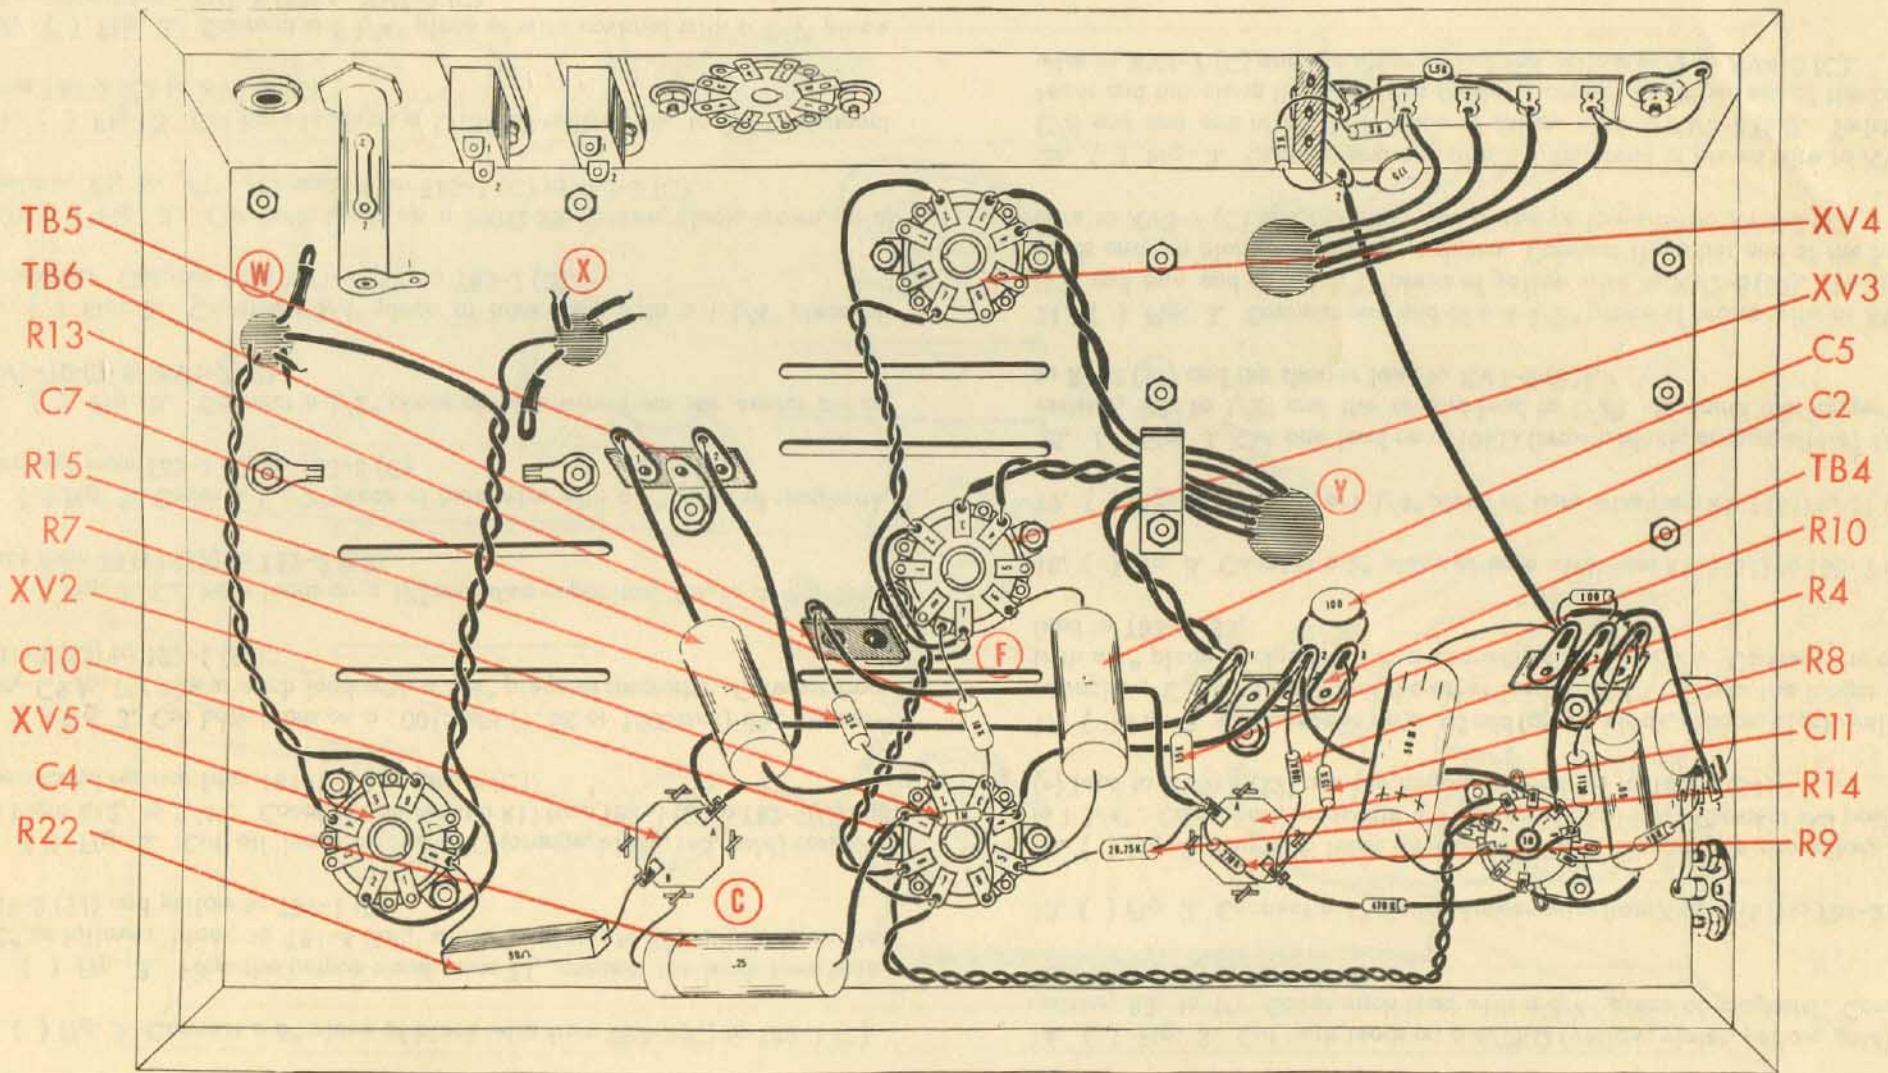

Fig. 4
1. () Fig. 4. From hole "Y" of output transformer T1, twist the red and red-yellow leads together. Connect both leads to TB4-1 (C).
2. () Fig. 4. From hole "Y" of the output transformer T1, twist the brown and brown-yellow leads together. Connect the brown lead to XV3-3 (C) and the brown-yellow lead to XV3-4 (S1).
3. () Fig. 4. From hole "Y" of the output transformer T1, twist the blue and blue-yellow leads together. Connect the blue lead to XV4-3 (S1) and the blue-yellow lead to XV4-4 (S1).
4. () Fig. 4. Connect a 4 1/2" piece of green wire from TB4-2 (C) to XV2-4 (C).
5. () Fig. 4. Cut both leads on a 100mfd disc capacitor, C2, to 1/2". Connect from TB4-2 (C) to TB4-3 (C).
6. () Fig. 4. Cut both leads on a 100K Ω (brown, black, yellow, gold) resistor, R4, to 3/4". Connect from C11-B (C) to TB4-2 (S4).
7. () Fig. 4. Cut both leads on a 15K Ω (brown, green, orange, silver) 1/2W resistor, R8, to 3/4". Connect from C11-B (C) to TB4-3 (S2).
8. () Fig. 4. Cut both leads on a 270K Ω (red, violet, yellow, silver) resistor, R9, to 1/2". Connect from C11-A (C) to C11-B (S4).
9. () Fig. 4. Connect a 5" piece of red wire from C10-A (C) to TB5-2 (C).
10. () Fig. 4. Connect a 6" piece of red wire from C10-A (C) to TB4-1 (C).
11. () Fig. 4. Connect a 5" piece of red wire from C11-A (C) to TB6 (C).
12. () Fig. 4. Cut both leads on a 15K Ω (brown, green, orange, silver) 1 watt resistor, R10, to 1/2". Connect from TB4-1 (S4) to C11-A (C).
13. () Fig. 4. Cut both leads on a 28.75K Ω (red, grey, grey, gold) resistor, R14, to 3/4". Connect from XV2-5 (C) to C11-A (S4).
14. () Fig. 4. Connect a 1 1/4" piece of bare wire covered with a 1" piece of spaghetti from XV2-6 (S1) to XV2-3 (C).
15. () Fig. 4. Cut both leads on a 1M Ω (brown, black, green, silver) resistor, R7, to 1/2". Connect from XV2-1 (C) to XV2-4 (S2).
16. () Fig. 4. Cut both leads on an 18K Ω (brown, grey, orange, gold) resistor, R13, to 3/4". Connect from XV2-3 (S2) to ground lug "F" (C) on XV3.
17. () Fig. 4. Cut both leads on a 33K Ω (orange, orange, orange, gold) resistor, R15, to 3/4". Connect from TB6 (S2) to XV2-2 (C).
18. () Fig. 4. Cut both leads on a .25mfd (red, green, yellow, white, yellow) capacitor, C4, to 1". Cover one lead with a 3/4" piece of spaghetti and connect to XV2-1 (S2). Connect the other lead to ground lug "C" (S1) at C10.
19. () Fig. 4. Cut both leads on a .1 mfd (brown, black, yellow, white, blue) capacitor, C5, to 1". Connect from XV2-5 (S2) to XV3-6 (C).
20. () Fig. 4. Cut both leads on a .1 mfd (brown, black, yellow, white, blue) capacitor, C7, to 1 1/2". Cover each lead with a 1 1/4" piece of spaghetti. Connect from XV2-2 (S2) to TB5-1 (C).
21. () Fig. 4. Twist the two red leads from hole "W" of power transformer T2, and run along the chassis as shown. Connect one red lead to XV5-4 (S1) and the other red lead to XV5-6 (S1).
22. () Fig. 4. Twist the two yellow leads, one from hole "W" and the other from hole "X", of the power transformer T2, and run along the chassis as shown. Connect one yellow lead to XV5-2 (S1) and the other yellow lead to XV5-8 (C).
23. () Fig. 4. Cut both leads on a 50 Ω , 10 watt, wire wound resistor, R22, to 3/4". Cover each lead with a 1/2" piece of spaghetti. Connect from XV5-8 (S2) to C10-B (C).
24. () Fig. 4. Connect a 1 1/4" piece of bare wire from C10-B (S2) to C10-A (S3).